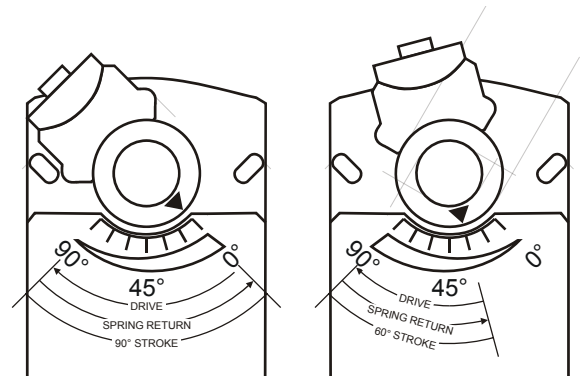

Fig. 4. Stroke reduction
3. Rotate the coupling to the desired fail-safe position, aligning it based on the stroke labeling. See Fig. 4.
EXAMPLE: Setting the shaft coupling to an approx. fail-safe position of 35° (as indicated on the housing) limits the stroke to 60° (see Fig. 4).